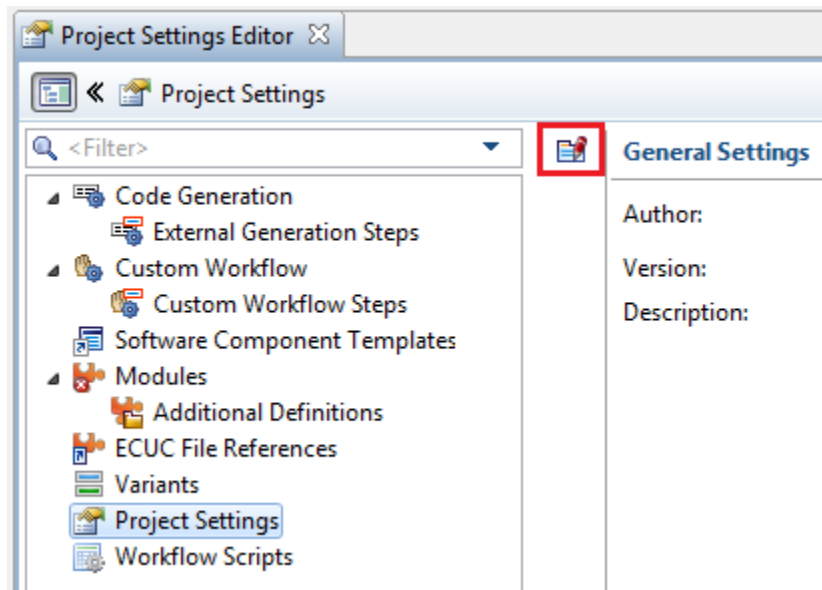

Figure 6-2 Button for editing the project settings
4. Open the project settings and click the button shown in Figure 6-2 to edit the project settings.